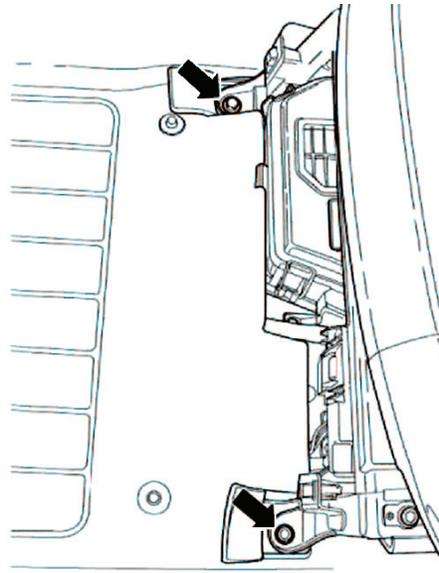

Fig. 1 Front seat bolt locations
7. Remove lefthand front seat mounting bolts (arrows), **Fig. 1**.
7. Install lefthand front seat mounting bolts (arrows), and **torque** to 33 ft. lbs., **Fig. 1**.